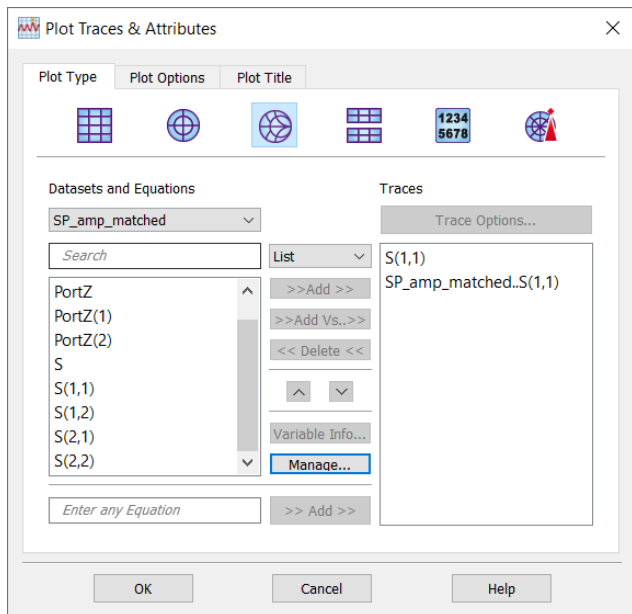

Figure 26. Adding S(1,1) from the matching network dataset
- When the simulation finishes, go to your SP_amp Data Display. Edit (double-click) the Smith Chart. Under the dropdown, select the **SP_amp_matched dataset** and add the S(1,1) trace, as shown in Figure 26.